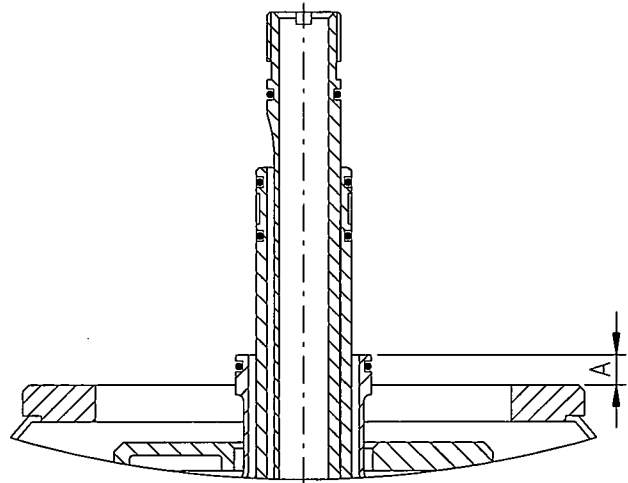

Figure 6.13
To find "A" push down the centripetal pump (5) to the bottom of the corresponding bowl chamber. The distance (measured in mm) between the cover upper edge and the pump give the value of "A" (fig. 6.13). Extract all existing spacers before doing this measure.